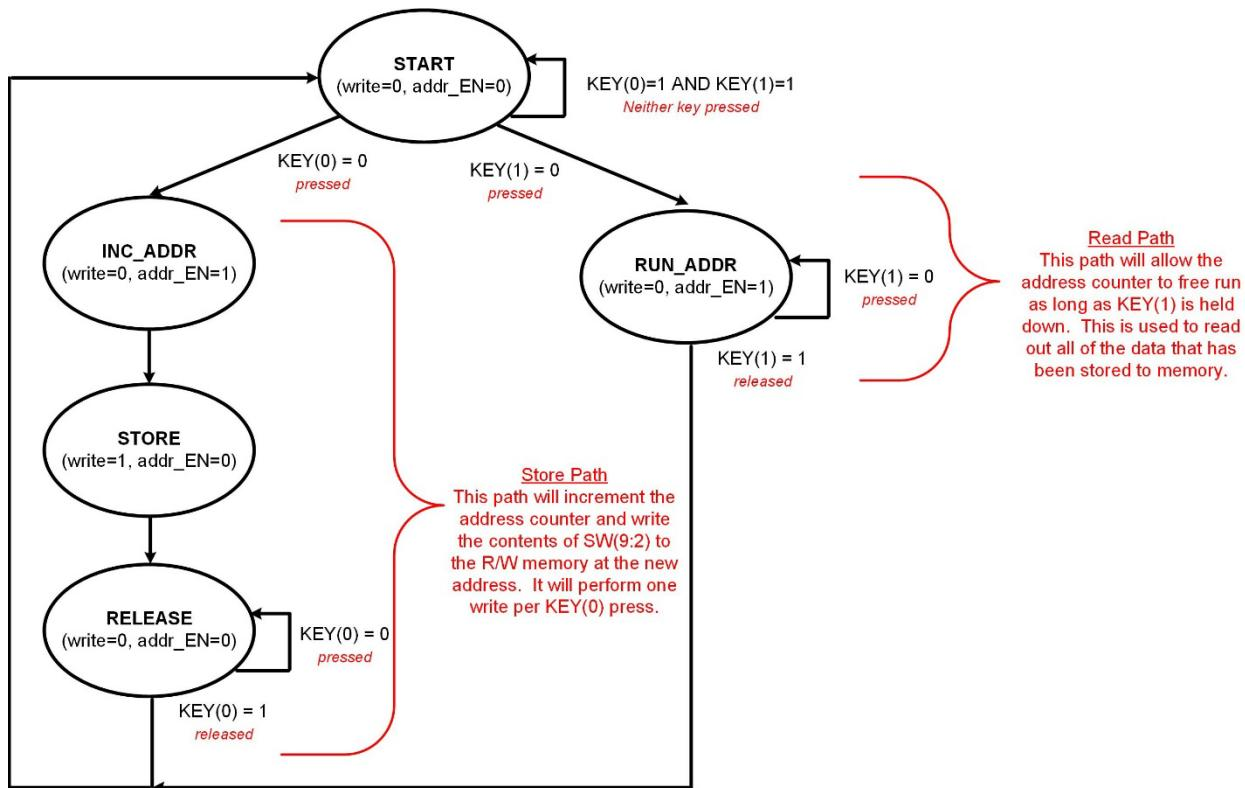

Figure 10.9
The R/W operation will be facilitated by a control FSM. The state diagram for the FSM is given in Figure 10.9. You will implement the FSM using the three process, behavioral modeling approach described in Chapter 8 of the textbook. The FSM will have two primary functions. The first is to handle storing the values of SW(9 downto 2) to the R/W memory. When KEY(0) is pressed, the FSM will increment the address counter by asserting addr_EN for one clock cycle. This will have the effect of storing the values on the switches to the *next* address in R/W memory. When running the clock at 1 kHz, you will not be able to press and release KEY(0) before the FSM returns to its START state and looks for another key press. This means that a single button press could result in hundreds of writes to memory. To avoid this behavior, the FSM will have a state that waits for KEY(0) to be released. In this way, each KEY(0) press only results in one write operation to R/W memory. This functionality is labeled the “Store Path” in Figure 10.9. Note that the push buttons are active LOW, meaning that when not pressed, they produce a logic 1 and when pressed they produced a logic 0.
The second function that the FSM will handle is reading out the contents of memory. When KEY(1) is pressed, the FSM will assert addr_EN for as long as the button is held down. In this way, the address counter will increment on every rising edge of clock. This will result in the R/W array outputting the contents of each address on the rising edge of clock. This functionality is labeled the “Read Path” in Figure 10.9.